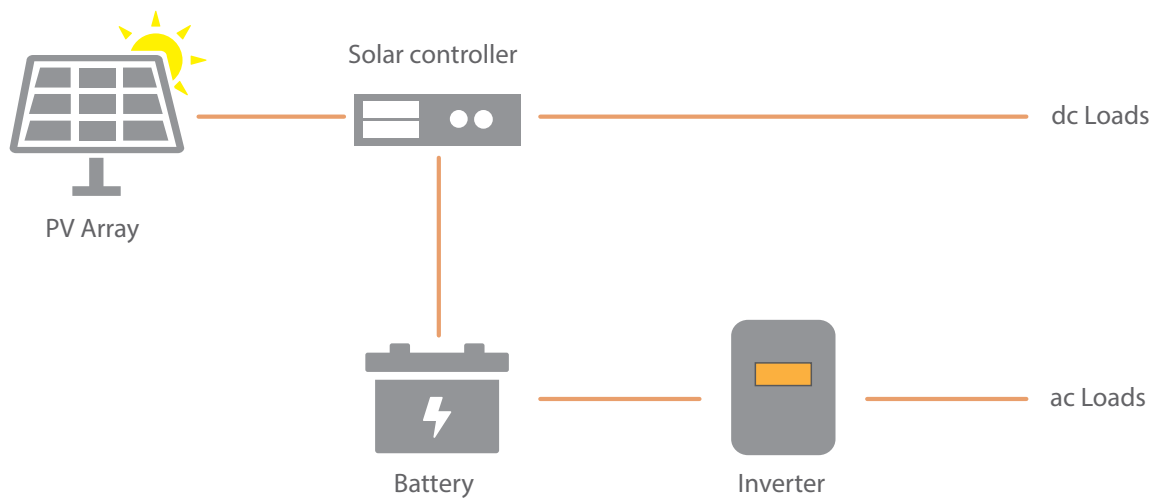

Figure 2: dc bus system
- dc bus systems (refer to Figure 2); or